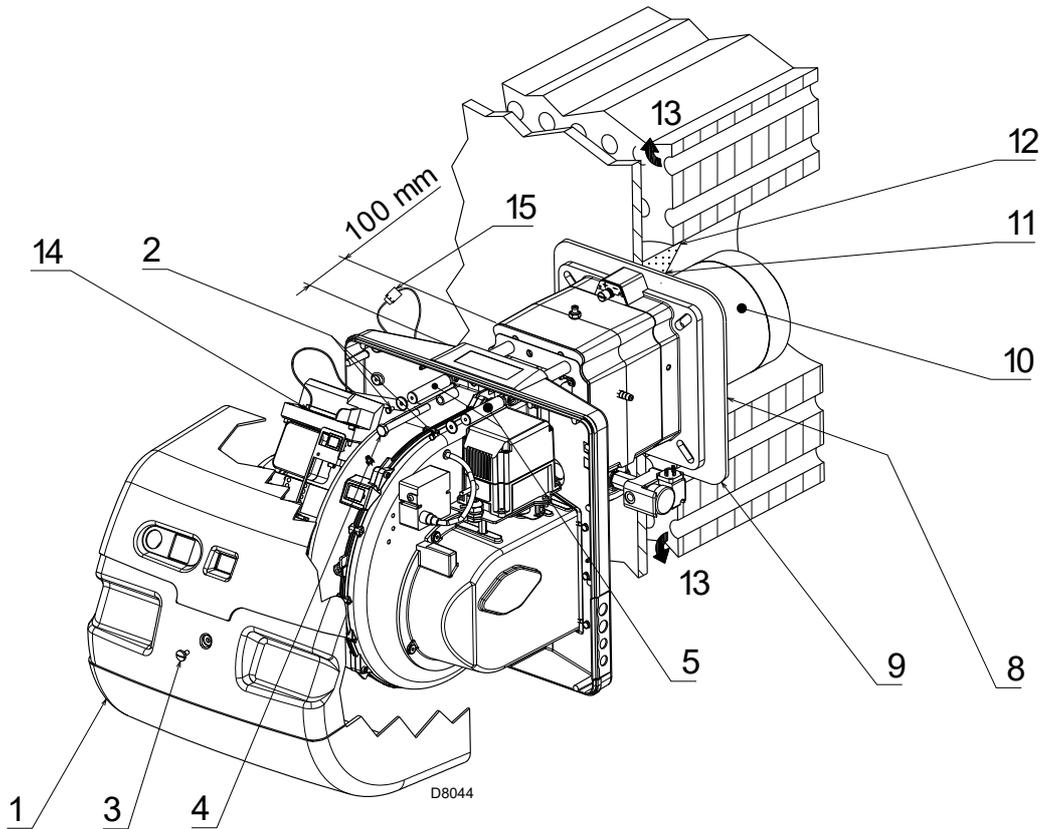
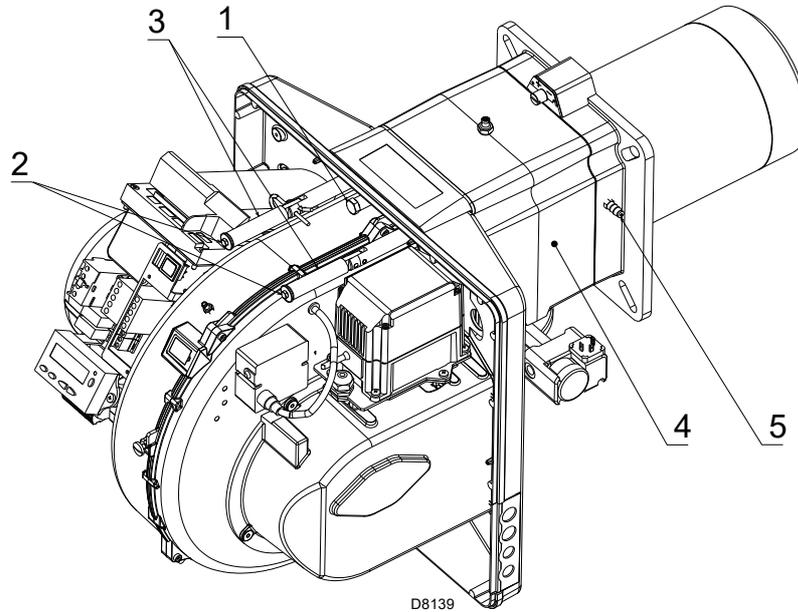

Fig. 17
Fig. 20
For boilers with front flue passes 13)(Fig. 17), a protection in refractory material 11) must be inserted between the boiler refractory 12) and the blast tube 10).
For boilers with a water-cooled frontal, a refractory cover is not necessary 11)-12)(Fig. 17), unless expressly requested by the boiler manufacturer.
Separate the combustion head from the rest of the burner, as in Fig. 17; proceed as follows:
- reassemble the burner on the guides 3)(Fig. 20) at about 100 mm from the pipe coupling 4) - burner in the position shown in Fig. 17 at page 24;
- insert the probe and electrode cables, then slide the burner as far as the pipe coupling - burner in the position shown in Fig. 20;
- connect the servomotor plug 14)(Fig. 17) and tighten the grommet 15);